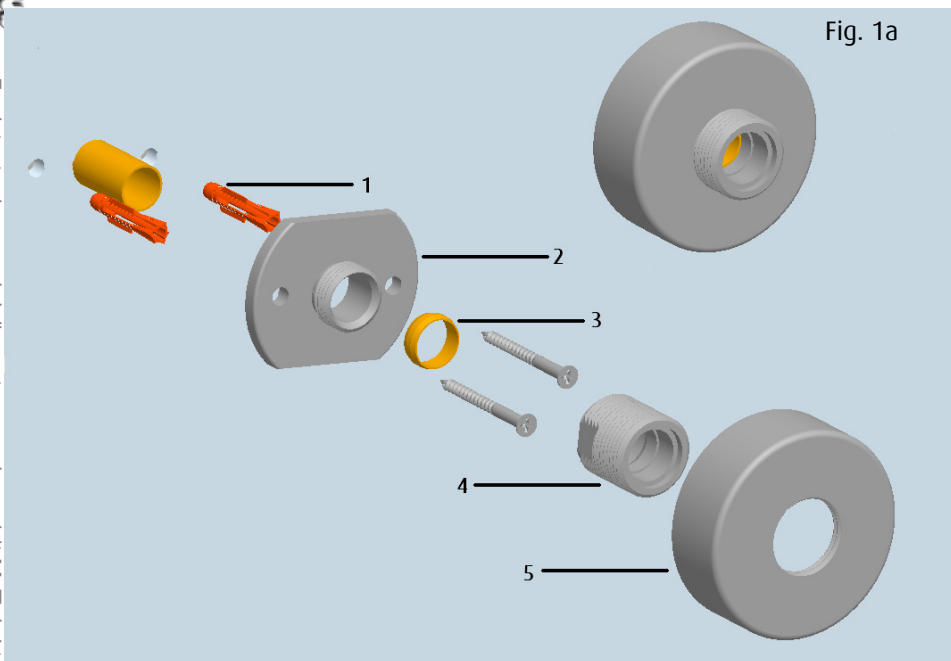

Fig. 1a
##### 4.1 Pre-Installation (See Fig. 1a & 1b)
### 4.2.1 Fast Fit Fixing Kit (See Fig. 1a)
4.2.2.1 To fit mixer body to the wall. Place the filter washers (6) into the connecting nuts (7) and tighten to the fixing bridge (4 on page 3, Fig. 1a) using the connecting nuts (7) which are secured to the mixer body.